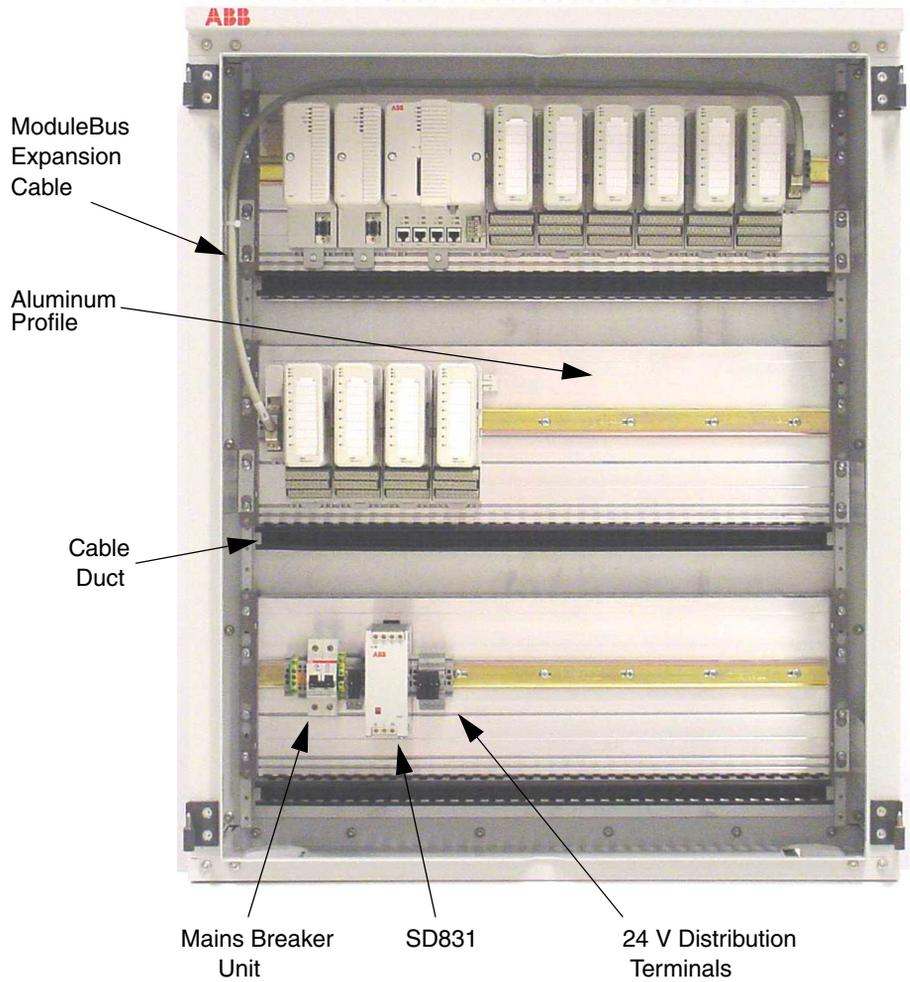

Figure 49. Wall Cabinet – Single Power Supply Arrangement
- Figure 49 on page 146: Wall Cabinet – Single Power Supply Arrangement